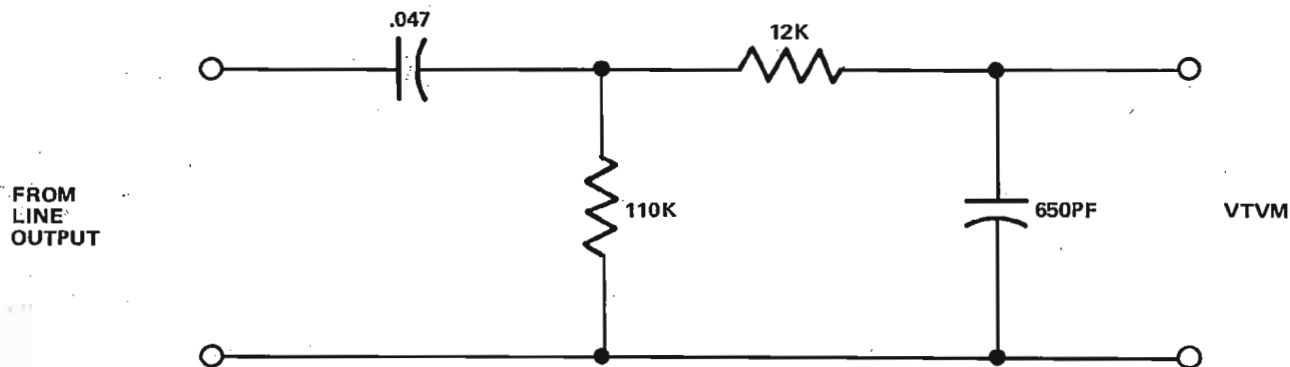

Figure 18. 30 Hz - 18 kHz Band-Limiting Filter
10. Connect a band-limiting filter (Figure 18) between line output and a vtm to measure reproduce standby noise. The vtm reading should be less than -58 dBm at either speed for 8 or 16-channel systems, or less than -54 dBm for 24-channel systems.
3. Rewind the tape to the beginning of the recorded section and remove the oscillator input signal. The inputs should be terminated with a low impedance (600 ohms) or shorted. Connect a vtm to the line output via a bandpass filter (see Figure 18).